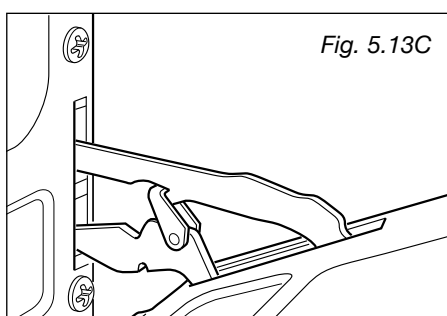

Fig. 5.13C
- Gently close the door and withdraw the lower hinge pins from their location (fig. 5.13C).